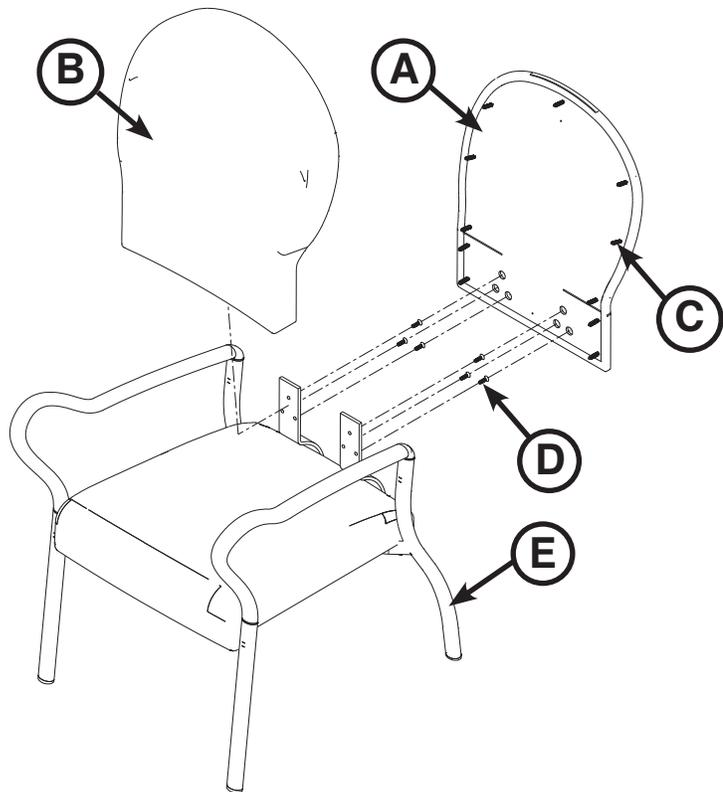

Figure 10: Back Replacement (Model 4855 shown)
1. Using a large slotted screwdriver, carefully remove the back panel (A) from the back cushion (B) (Figure 10).
Note: There are eleven push rivets (C) that secure the back panel to the back cushion (Figure 10).
2. Using a #3 Phillips screwdriver, remove the six screws (D) that secure the back cushion to the chair frame (E) and remove the back cushion (Figure 10). Discard the back cushion, back panel, and screws.